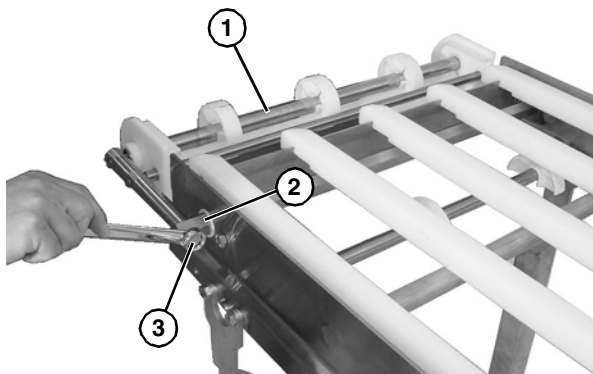

Figure 22
1. Place the idler tail assembly (**Figure 22, item 1**) against the holes in the tip up hex shaft assembly (**Figure 22, item 2**) and secure with a bolt (**Figure 22, item 3**) on each side.